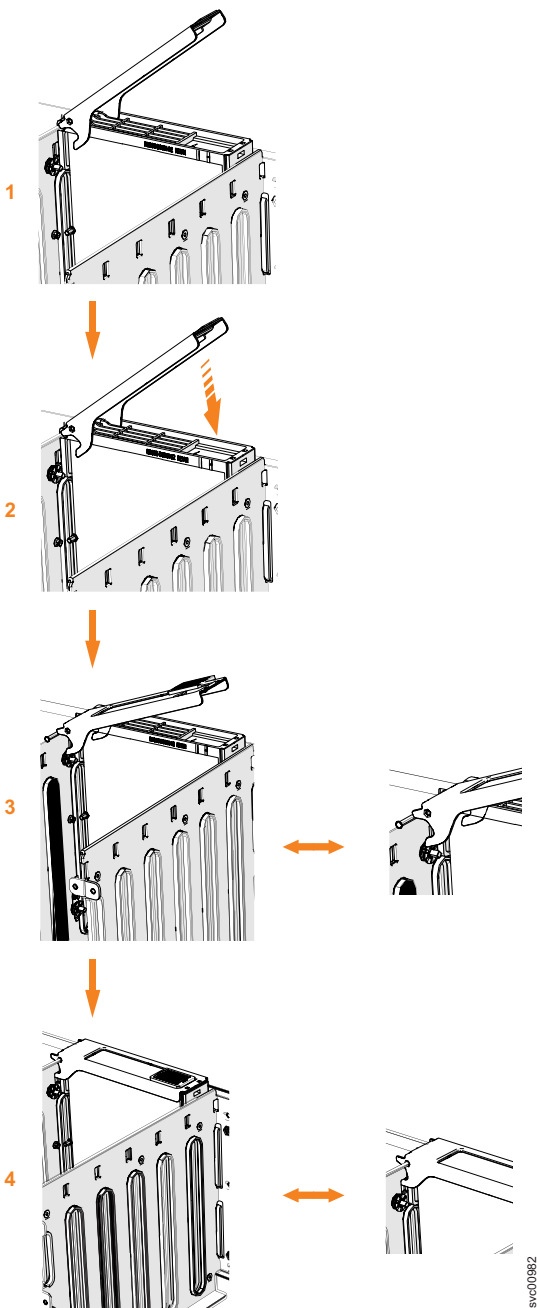

Figure 63. Replace the drive
6. Ensure that the drive handle (**1** in Figure 63 on page 78) of the drive assembly is in the open (unlocked) position.
8. Gently push the drive down until it stops and the bottom of the latch is aligned with the top of the partition. Ensure that the handle is not open more than 45 degrees from the drive carrier. (**2** in Figure 63 on page 78).
9. Rotate the handle down to lock the drive assembly into the chassis (**3** in Figure 63).
11. Ensure that the top toe of the latch is also fully engaged (**4** in Figure 63 on page 78).